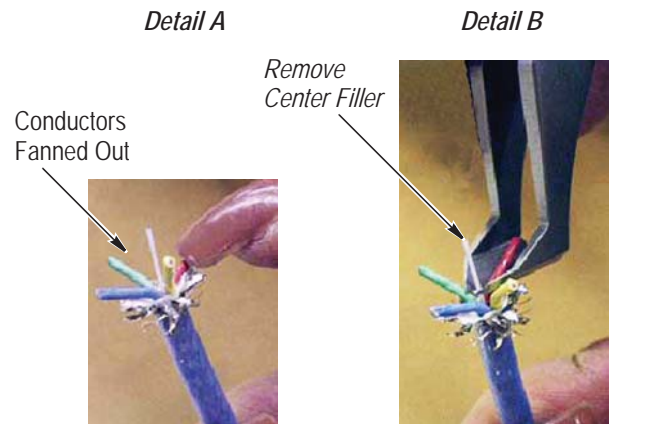

Figure 6
6. Fan out the 4 colored conductors. The center filler should be exposed. See Figure 6, Detail A. Using tweezers or similar tool, remove the center filler as shown in Figure 6, Detail B.